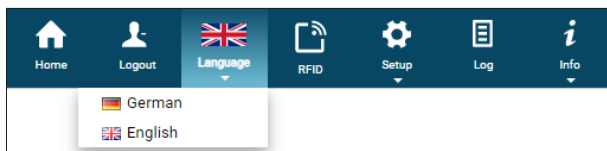

Fig. 7-7: Language settings
- Open the language selection by clicking on the menu item *LANGUAGE* in the main menu and click on the desired language line (see Fig. 7-7).